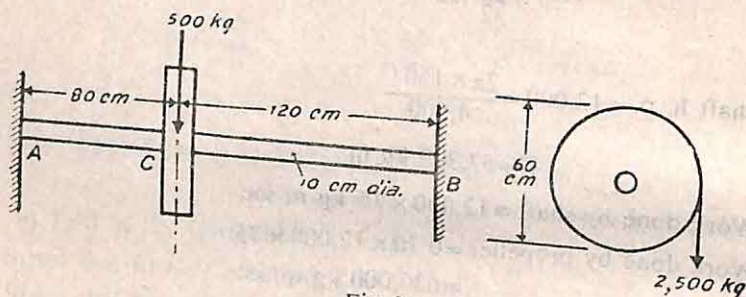

Fig. 9
24. A shaft 10 cm diameter and 2 metres long is fixed at both ends and supports a load of 2,500 kg from the rim of a pulley 60 cm in diameter as shown in Fig. 9. The weight of the pulley is 500 kg. Find the maximum bending and shearing stresses in the shaft and the maximum principal stress.